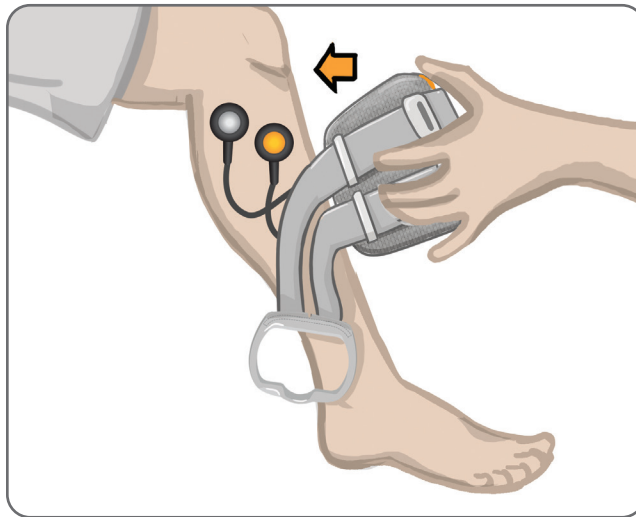

Figure 8-5: Positioning the Locator Below the Patella
6. Position the locator of the Lower Leg Cuff below the patella, over the tibial plateau. See Figure 8-5. Make sure the cuff does not touch the electrode bases. The locator should fit snugly but comfortably under the inferior pole of the patella.